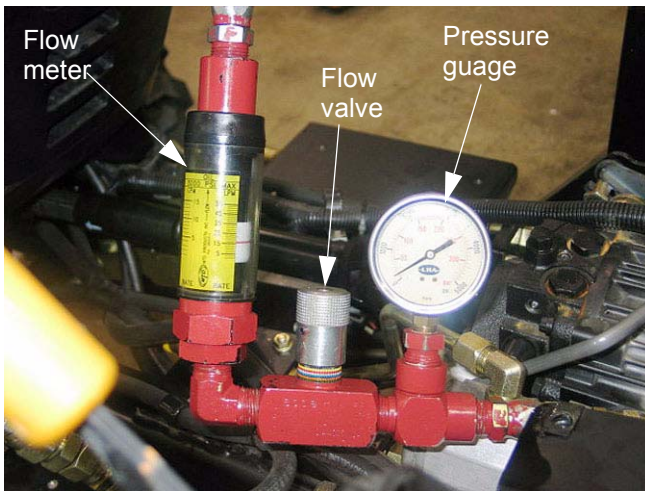

Figure 6.18
- 6.18. Set the parking brake, place the gear selector in neutral, open the flow valve on the gauge set all the way, and confirm that no unsafe conditions will be created by starting the tractor engine. See Figure 6.18.